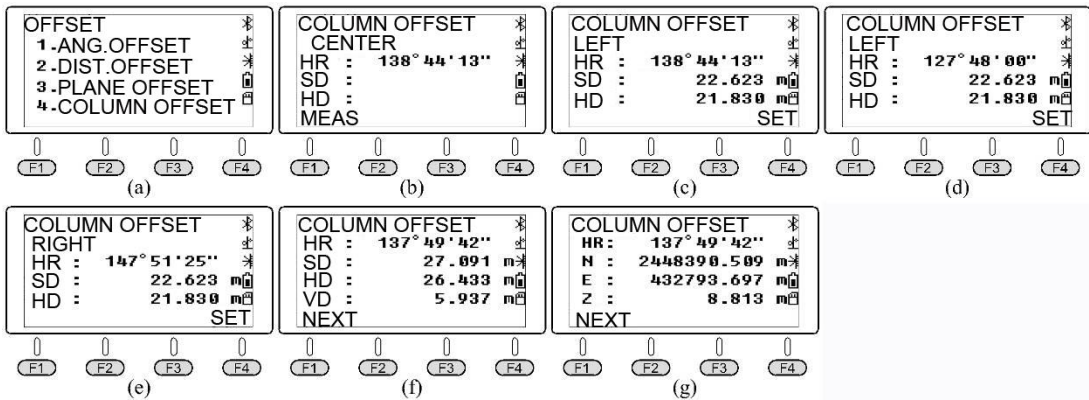

Figure 2-30 Operation steps to measure the coordinates of center of a cylinder by command " Column Offset "
In Offset menu Figure2-30(a), press ④ (Column Offset) key, and press F1 (MEA) key at P1, as shown in Figure2-30(c). Press (Set) button when aiming at P2 and P3, as shown in Figure 2-30(f). Press the key to switch the screen to display the coordinates of point P of cylinder center Figure2-30(g) and press the key to switch the screen to display the distance of point P of cylinder center Figure2-30(f). Press the F1 to continue the Column Offset to next point.